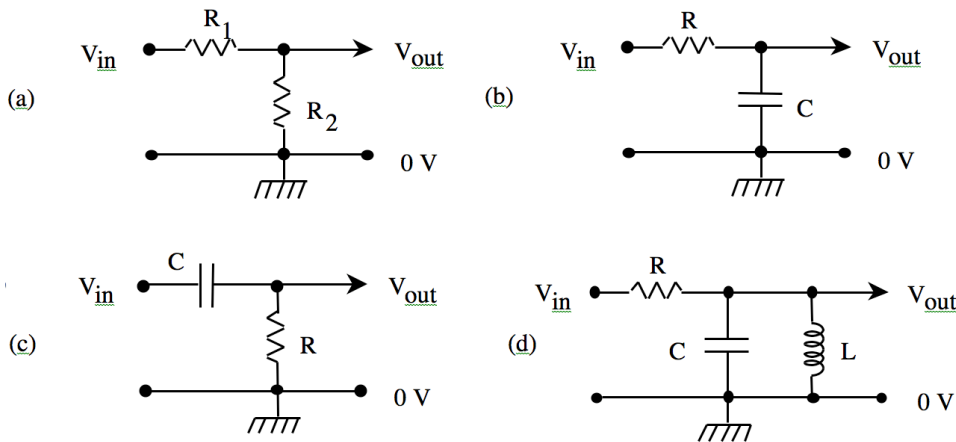

Figure 2. General Voltage Dividers. (a) resistive divider, (b) low-pass filter, (c) high-pass filter, and (d) band-pass filter.
Step 1	<p>Building the Circuits</p> <ol style="list-style-type: none"> Gather all the components to be able to build the four circuits shown in Fig. 2. If you cannot find components in stock with the specified values, take the nearest in value that you can find, within 30% if possible. <ul style="list-style-type: none"> ○ Resistive divider: $R_1 = 10 \text{ k}\Omega$, $R_2 = 6.8 \text{ k}\Omega$ ○ Low-pass filter: $R = 10 \text{ k}\Omega$, $C = 1000 \text{ pF}$ ○ High-pass filter: $R = 10 \text{ k}\Omega$, $C = 1000 \text{ pF}$ ○ Band-pass filter: $R = 10 \text{ k}\Omega$, $C = .01 \text{ }\mu\text{F}$, $L = 10 \text{ mH}$ Measure all components before placing them into the circuit. Record the values in your lab book. Draw diagrams of all the circuits. Make sure to use the same labels on the diagrams and for the values of the components. Build all four circuits on your proto-board (make sure they are all separate)